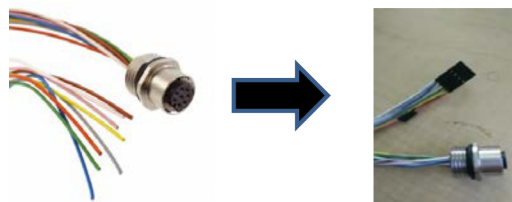

Figure 9. Adapter to Connect the Heidenhain Cable to IDDK
- (a) Prepare an adapter to connect the Heidenhain cable to the IDDK EnDat interface ([Main] – H6 4x2 header) using the circular 8 position female to wire leads – M12 receptacle (see Figure 9).